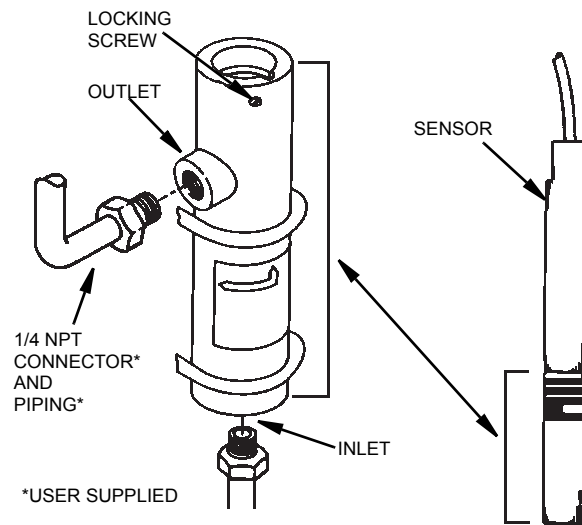

Figure 2. Flow Chamber Installation
2. Mount the flow chamber and connect the two 1/4 NPT user supplied connections (see Figure 2).